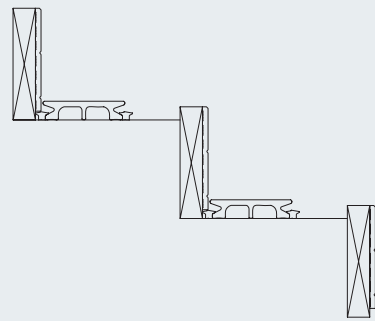

FIG.10d
- Attach cladding to the support lumber with three #8 x 1⁵/₈" deck screws along the top edge. These screws will be hidden after the bullnose is installed. Use on 1⁵/₈" screws or shorter to prevent the screws from coming out the other side of the support lumber and interfering with the bullnose. (REFER TO FIG.10d)